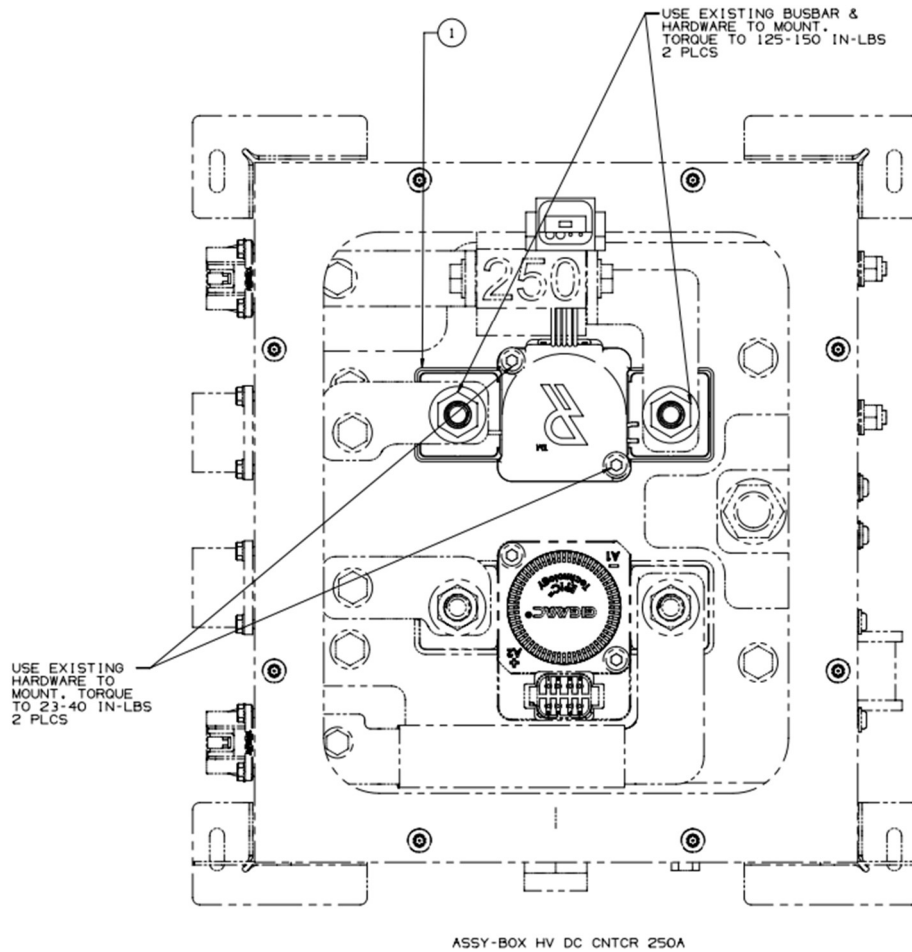

Figure 5 - New contactor installation
- 3. Tighten the busbar in step 2.7 to both ends of the Rincon contactor using existing hardware (refer to figure 5).